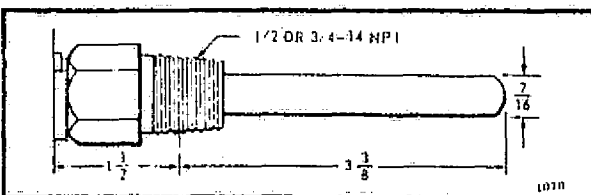

FIG. 3—IMMERSION WELL DIMENSIONS FOR ALL MODELS EXCEPT L4006C, L4007D, AND L6006B.
**IMMERSION WELL DIMENSIONS:** See Fig. 3.